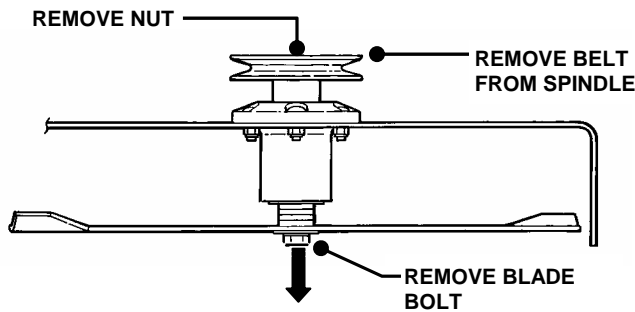

FIGURE 5.7
1. Remove belt. Loosen blade nut and remove. Allow blade bolt, washer, blade and four spacers to drop down out of the spindle housing. See Figure 5.7.